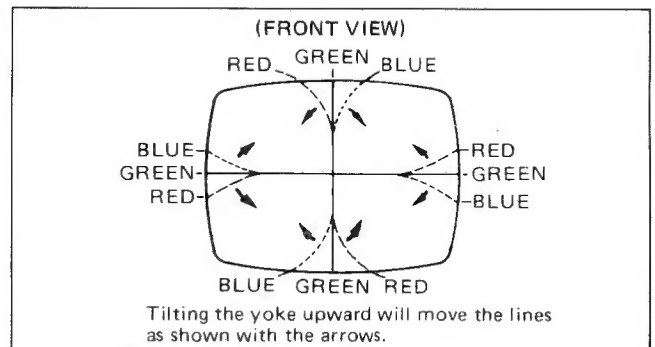

Fig. B-8
8. Tilting the angle of the yoke up, down and sideways, and adjust the yoke so as to obtain the circumference convergence. (Fig. B-8, 9)